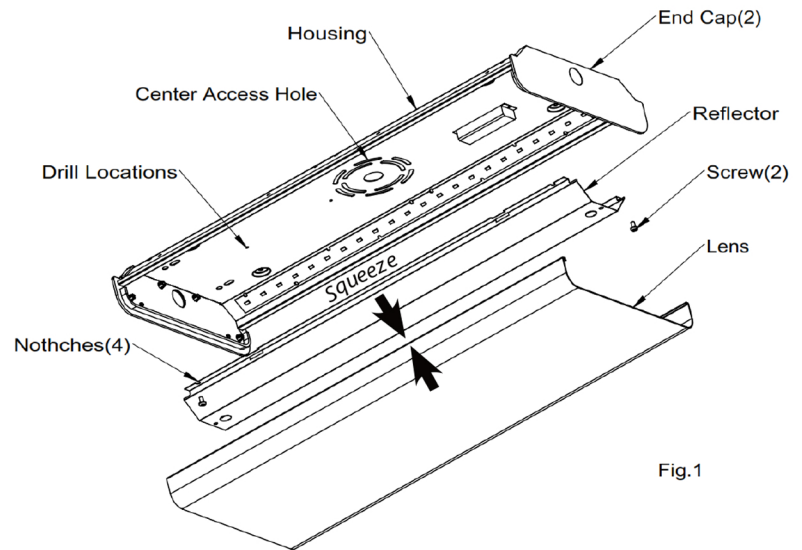

Fig.1
2. Remove **Screws (2)** from **Reflector** and discard. Squeeze center of **Reflector** and release from **Notches**.
3. Pull supply wires from Junction Box (not supplied) through **Center Access Hole** of **Housing** as shown in Fig. 1. Use appropriate UL approved wire connectors as required by code to make electrical splices to fixture leads.